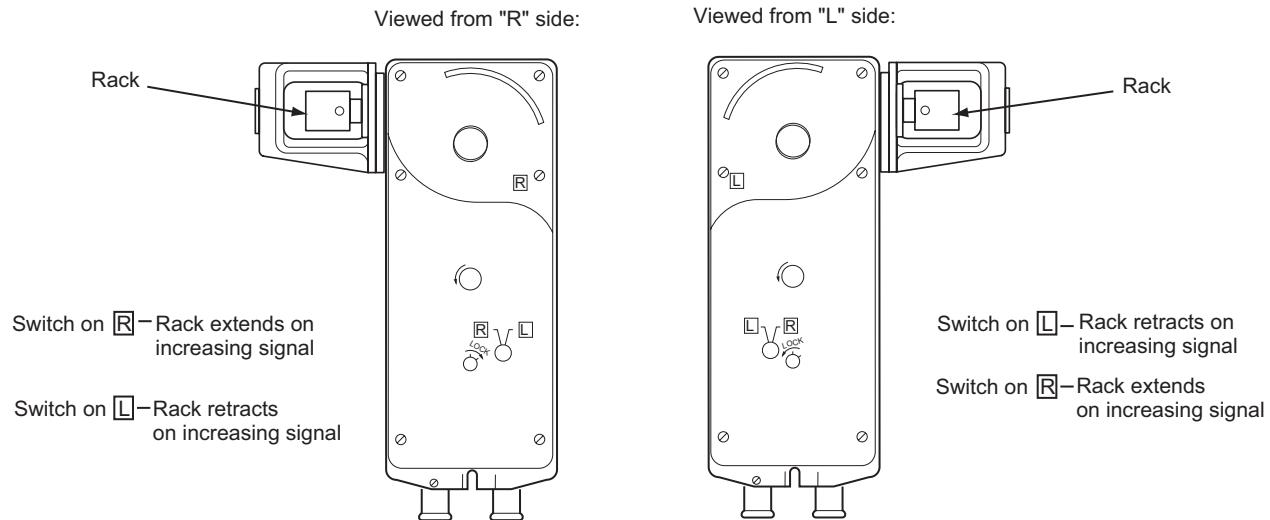

Figure-9 Rotation Switch Settings for MSx1-7203 Proportional Actuators.
- 5 To reverse actuator control function (direct/reverse action), use the reversing switch, see Figure-9.
These actuators are equipped with a switch to control the function of the signal as received. See Figure-9.